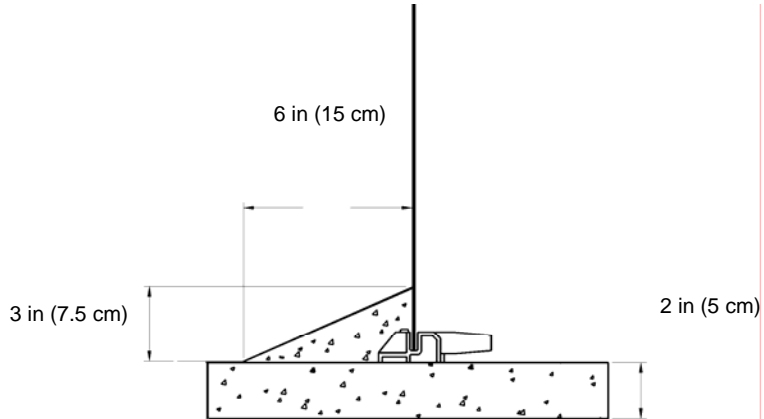

Figure 13.1
- Spread about 2" (5 cm) of the cove material on the bottom of the pool while making sure the cove is 3" (7.5cm) high (figure 13.1). Be sure to compact the cove material and remove any small stones.